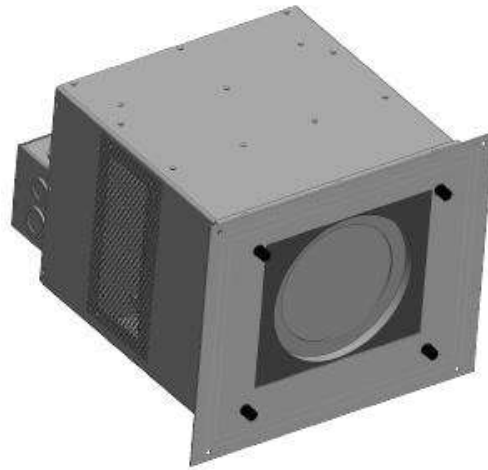

Fig. 34 *Installation of the ventilation kit*
- A. Open the lid of the junction box (Figure 34).